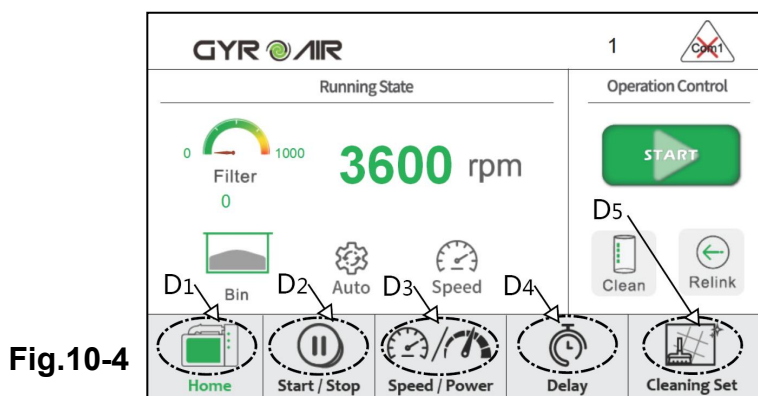

Fig.10-4
5.1.4 Parameter Set Up area D (Fig. 10-4)